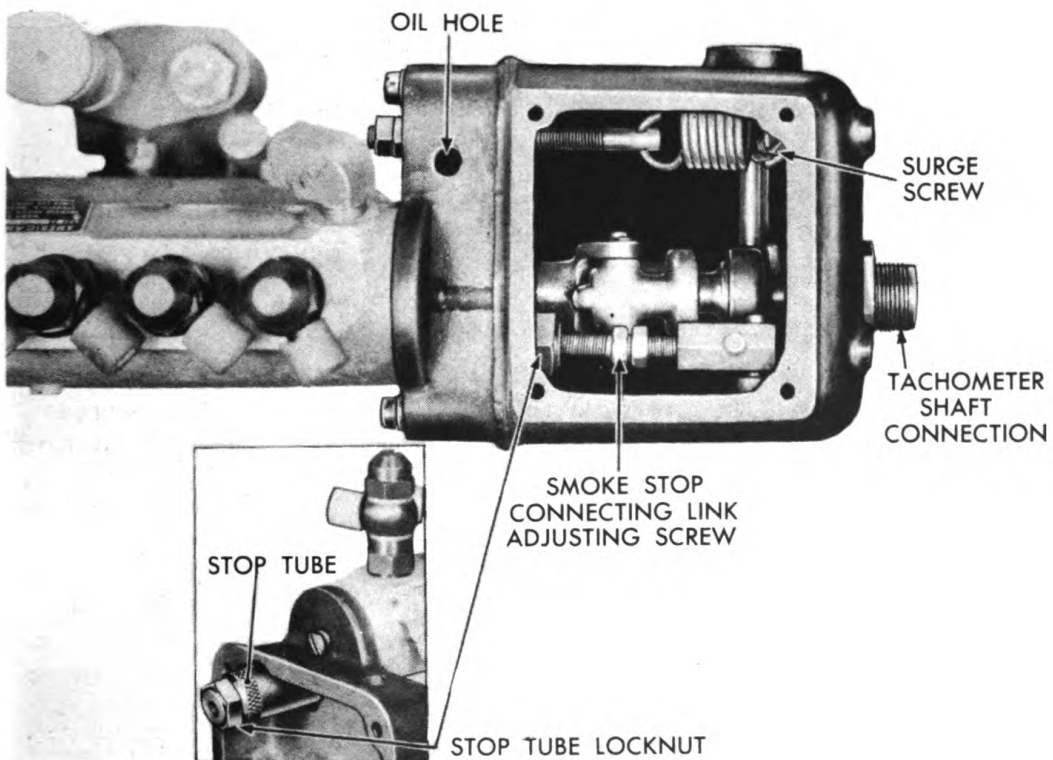

Figure 211. Governor Top View, Showing Smoke Stop and Surge Screw.
Load the engine to 30 K. W. Set the governor to 1800 R.P.M. by adjusting the speed adjusting screw shown in Figure 321. Remove the load by moving circuit breaker to "Off" position. The no-load speed indicated on the tachometer should be 1845. If not, remove the lid assembly and turn the surge adjusting screw 1-1/2 turns to the right (in) if the speed is over 1845, and out (left) if under 1845. See Figure 211. Again apply load and set the speed to 1800 R.P.M. as shown in Figure 321. Again disconnect load and check tachometer for 1845 R.P.M. NOTE: It may be necessary to repeat the foregoing procedure several times to obtain exact speed which is necessary for parallel operation. Install the lid.
Load the generator to 36 K. W. at 1800 R.P.M. Loosen locknut. Turn the stop tube shown in Figure 211 so the rack is forced out. Turn the stop tube until the engine just begins to slow down. Tighten the locknut and replace lid.
4. Install the connecting link adjusting screw and throttle clevis shown in Figure 211 and 222. Adjust the screw so that the throttle clevis when pulled back by hand pulls the fuel pump rack completely out. (Shut off position.) Lock the adjusting nut.